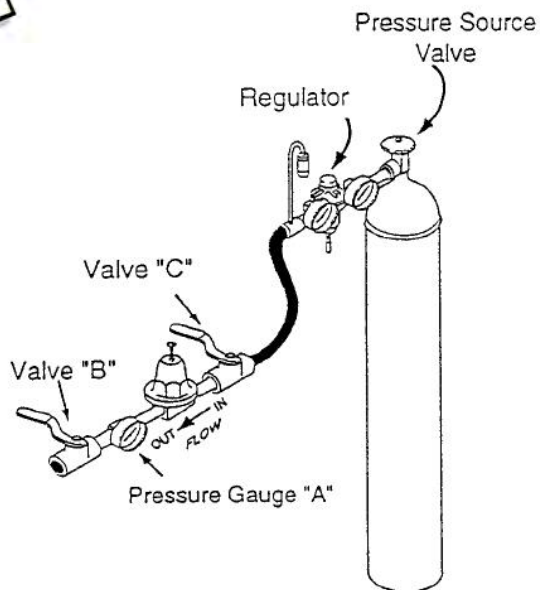

Figure 2 - Pressure Building Regulator
1. Connect the pressure building regulator to a nitrogen pressure source as shown in the Figure 2 below.
1. Connect the inlet of the economizer regulator to a pressure source as shown in the Figure 2.